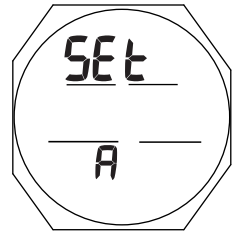

Fig. 39 - SET A LEAD-IN (Alarms)
**Set A (Alarms) Lead-in**, information includes (Fig. 39):